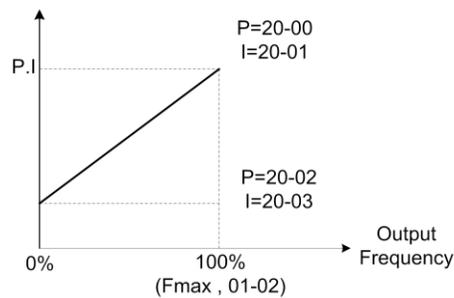

Figure 4.4.111 ASR gain setting (V/F+PG)
In V/F+PG mode, set the proportional (P) gain and integral (I) time at the minimum output frequency (20-02 and 20-03) and maximum output frequency (20-00 and 20-01). Refer to the figure 4.4.111.